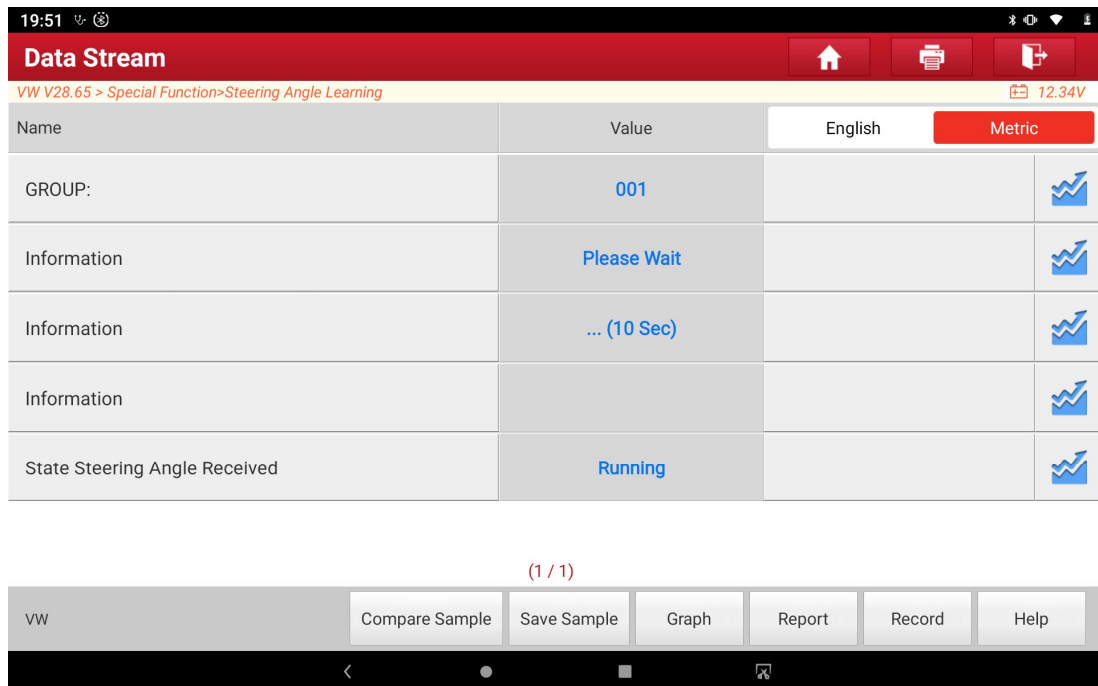

Figure 6
14. Pay attention to the prompt "Please wait..." during the learning process, as shown in Figure 6: